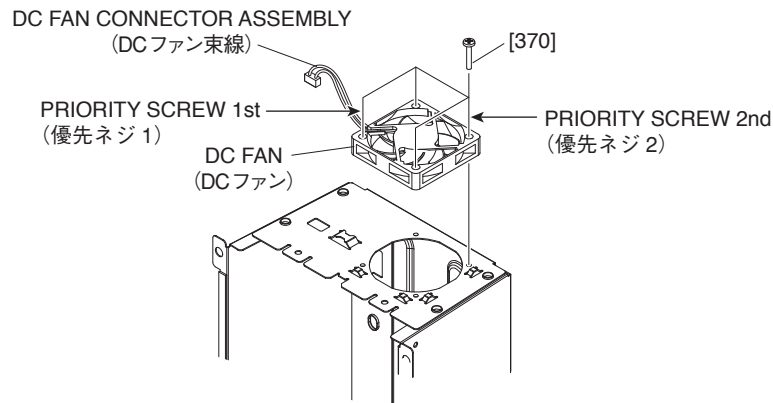

Fig. C-7 (図C-7)
- C-8-1 Remove the four (4) screws marked [370]. The DC fan can then be removed. (Fig. C-7)
\* **When installing the DC fan, first tighten the two (2) priority screws in order as shown in Fig. C-7.**
(図C-7)
※ **DCファンを取り付け時には、優先ネジ2本を図に示す順番で先に締めてください。(図C-7)**